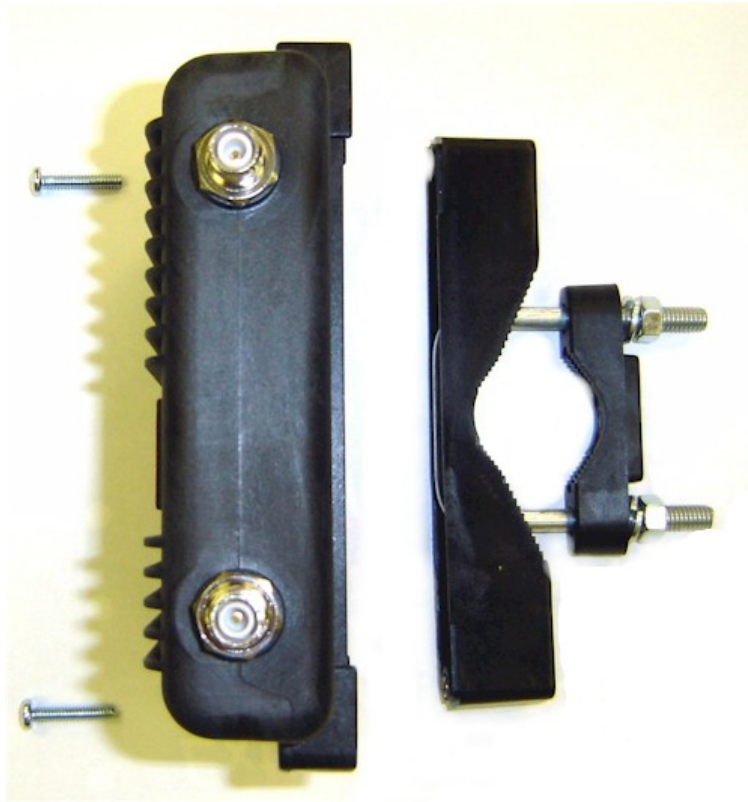

Figure 8: Pole Mount Connection to Case
6. Attach the two Pole Mounting Brackets to the ESTeem Model 195Eg with the 10-24 x 1" Phillips Pan Head screws through the top of the heat shield. Reference Figure 8 (Heat Shield removed for detail).